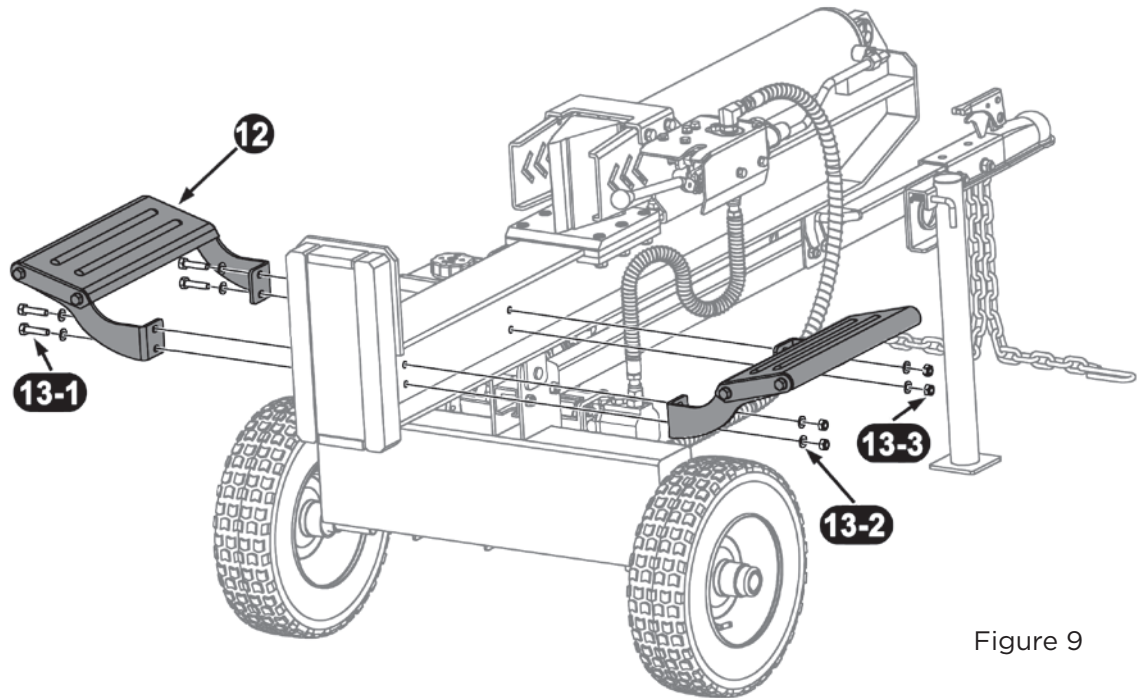

Figure 9
**Step 6:** Install the log tray assemblies. (See Fig. 9).